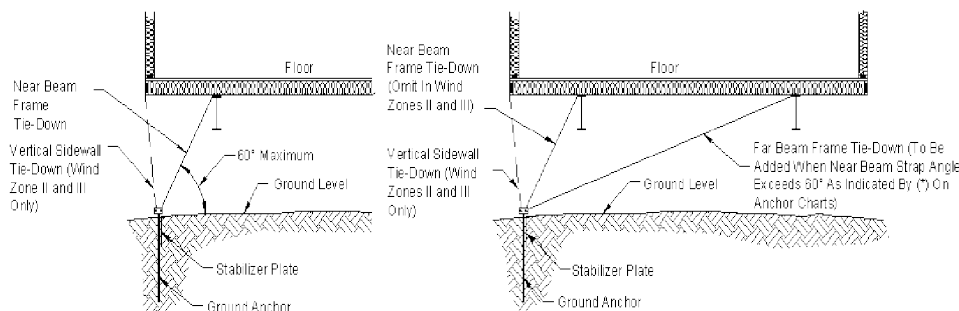

Figure 72. Lateral tie-down configurations
* Indicates a configuration that will require the frame strap connected to the far beam (see Figure 72).
There are two primary tie-down configurations: the near beam and the far beam methods. If the anchor spacing selected in the appropriate anchor table (**Table 22**, **Table 23** or **Table 24**) has an asterisk (*) then use the far beam method. Otherwise, use the near beam method (**Figure 72**). Each method varies by wind zone as described below.